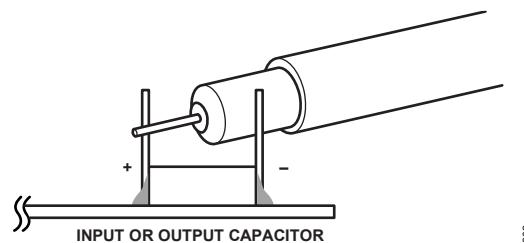

Figure 2. Scope Probe Placement for Measuring Input or Output Voltage Ripple
**NOTE:** When measuring the input or output voltage ripple, care must be taken to avoid a long ground lead on the oscilloscope probe. See Figure 2 for the proper scope technique.
**NOTE:** When measuring the output or input voltage ripple, do not use the long ground lead on the oscilloscope probe. J6 can be used for measuring output voltage ripple. If using a probe is desired, see Figure 2 for the proper scope probe technique. Short, stiff leads need to be soldered to the (+) and (-) terminals of an output capacitor. The probe's ground ring needs to touch the (-) lead, and the probe tip needs to touch the (+) lead.